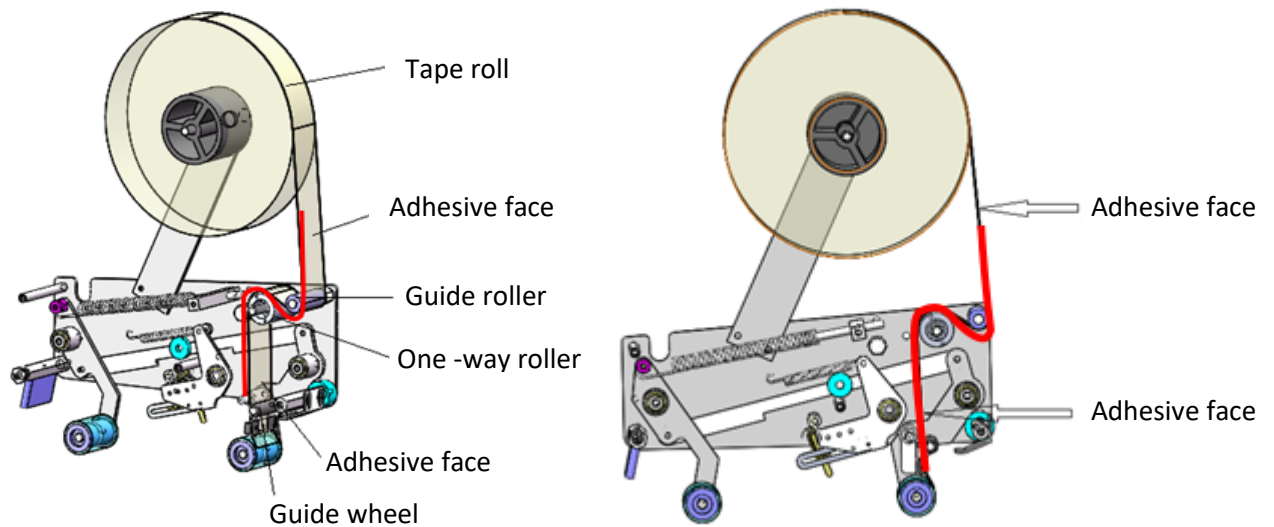

Figure 5
3. Now guide the tape under the first guide roller, over the one-way roller, and through the clip just above the last guide roller. **The red line in figure 5 shows the tape path**